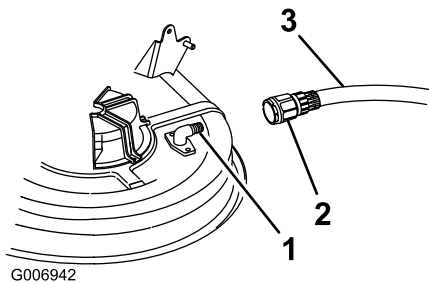

Figure 55
4. Attach the coupling (not included) to the mower washout fitting and turn the water on high (Figure 55).